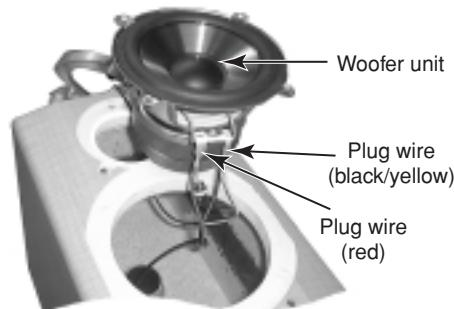

Fig.6
3. Two plug wires(red and black/yellow) connected with the woofer unit are pulled out.(See Fig.6)